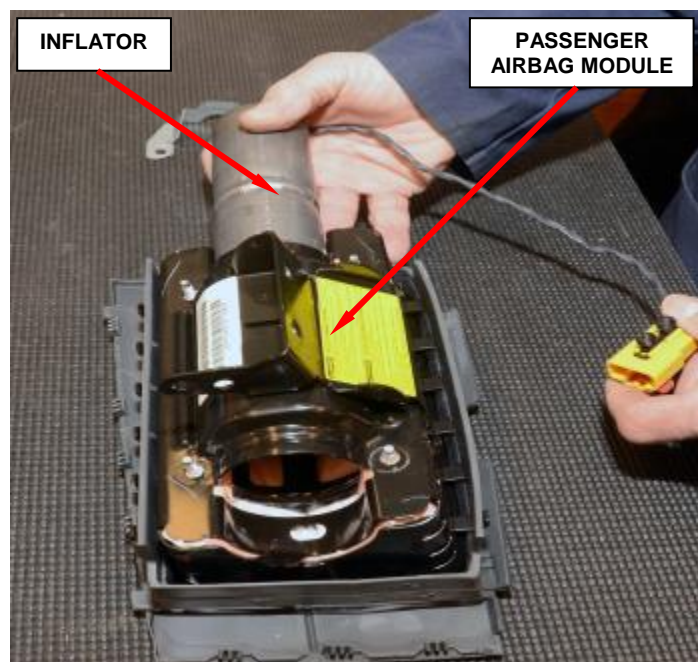

Figure 95 – Inflator Removal
f. Slide the inflator out of the passenger airbag module (Figure 95).